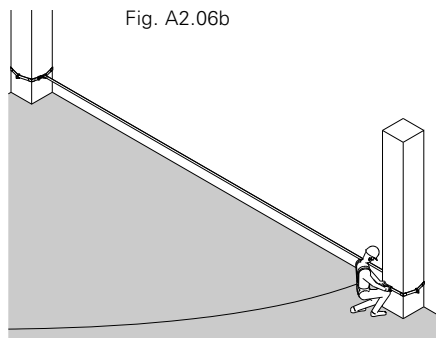

Fig. A2.06b
- with personal protection equipment (PPE). (Fig. A2.06b)